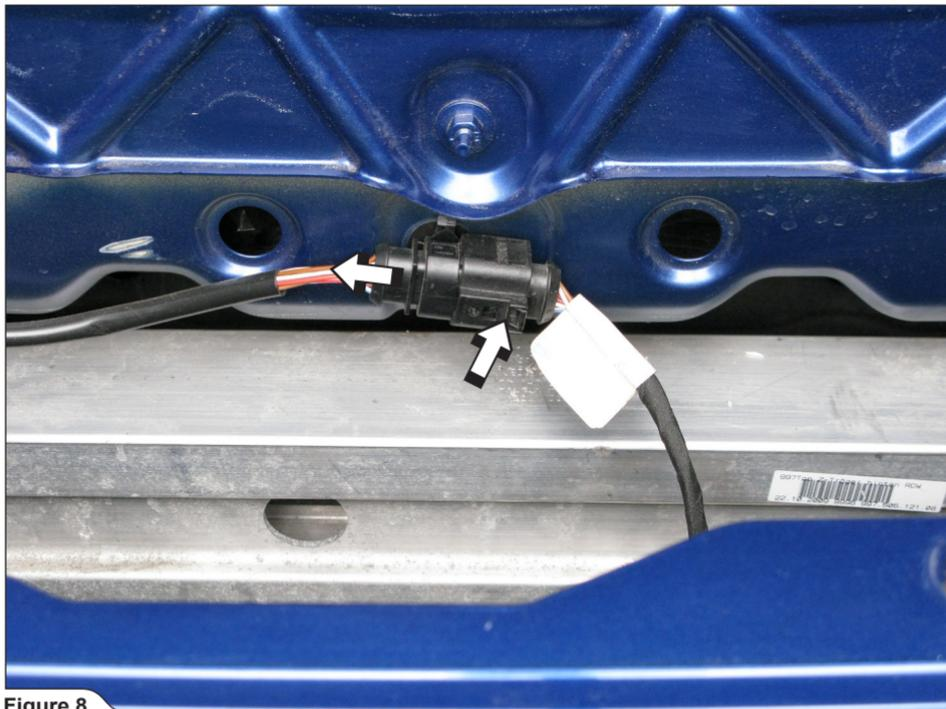

Figure 8
5. **For Slip-On and Slip-On with optional Link Pipes:** disconnect the number plate's light and park sensors' connector and remove the rear bumper off the vehicle (**Figure 8**).